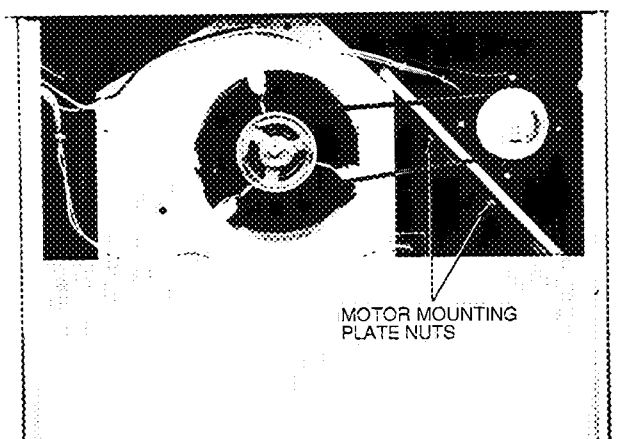

Fig. 27 — Typical Belt-Drive Motor Mounting for Sizes 008,009
2. Loosen belt by loosening fan motor mounting plate nuts (see Fig. 27 and 28).
To adjust belt tension (see Fig. 27 and 28):
2. *Units 008,009* — Slide motor mounting plate away from fan scroll for proper belt tension ($\frac{1}{2}$ -in. deflection with one finger) and tighten mounting nuts (see Fig. 27).